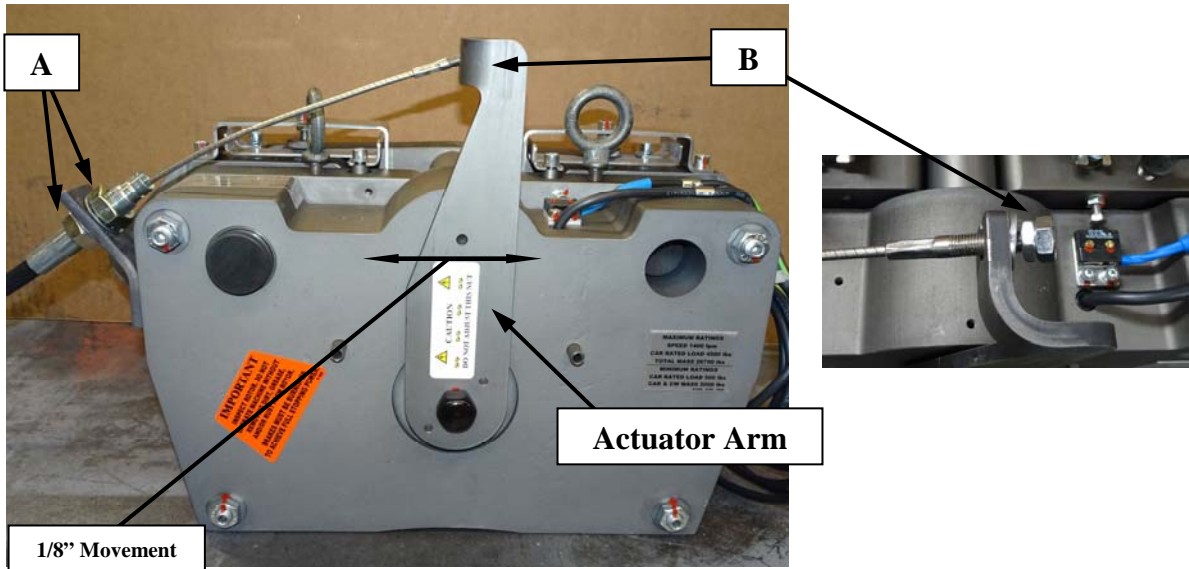

Figure 24
- See Figure 24. With the brake release handle un-actuated, adjust nuts "A" to allow enough cable to protrude through actuator arm "B" to attach 1 washer and 2 jam nuts "C" to threaded end of cable.